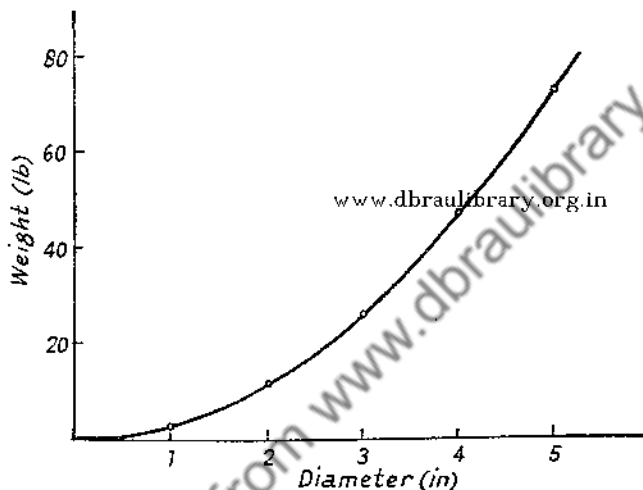

Fig. 47(a)
(2) The weight per foot length of round iron bar for diameters between 1 in. and 5 in. are given in the following table. Plot a graph and from it find the weight of the casting shown in fig. 47(b).
From graph (fig. 47(a))